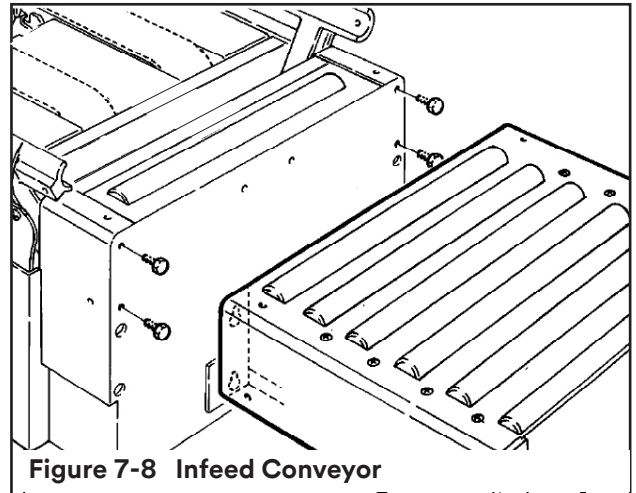

Figure 7-8 Infeed Conveyor
2. Verify that package contains two (2) right angled cover plates, twelve (12) M8 × 15 hex head screws, and eight (8) M8 flat washers.
3. To assemble the infeed conveyor, refer to **Figure 7-8** and locate four (4) bolt holes on the infeed end of the case sealer frame.